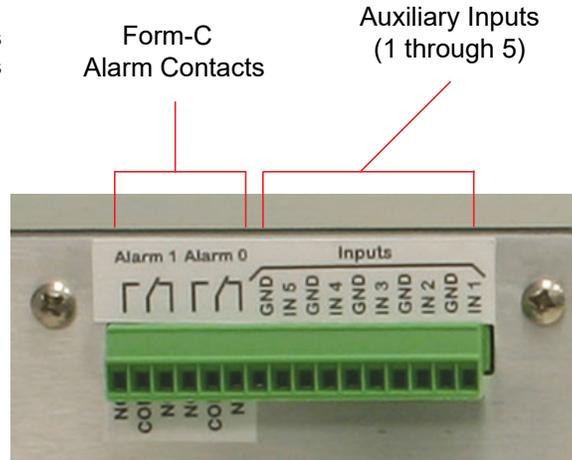

Figure 12: Alarm terminals. Normally open and normally closed terminals are available.
- 4) If you have a supervisory alarm system, connect its wiring harness to the alarm terminal screws (Form-C) at the back of the Control Unit. Refer to **Figure 12**. There are two sets of alarm contacts provided for convenience (Alarm 0 and Alarm 1). The alarm contact sets will change state in tandem so either or both can be connected to the supervisory alarm system. When an alarm event occurs the contacts will change state and when the event clears the contacts will change back to their original state.
There are 5 auxiliary input ports on the rear panel of the control unit as shown in figure 12. The inputs are labeled IN1 through IN5. These ports allow the system installer to connect alarm outputs from third-party equipment located in the shelter into the TTA system. This will allow the TTA systems extensive reporting features (Form-C, SNMP, SMTP, and SMS) to be used by the third-party equipment for alarm notifications.